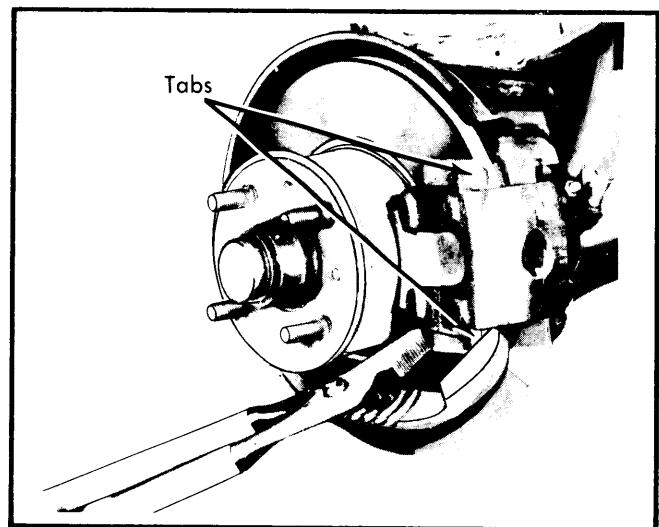

Fig. 2 Clinching Tabs of Outboard Shoe
2) Use channel lock pliers to cinch outboard shoe tabs to caliper as shown in Fig. 2. Radial and end play after cinching should be 0-.005". Install wheels and lower vehicle. Fill master cylinder and pump brakes several times to ensure a firm brake pedal.